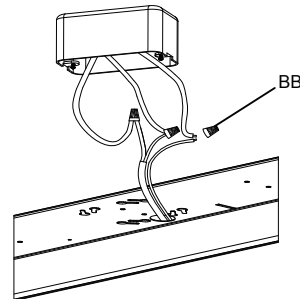

Figure 3
- Connect the house ground wire to the yellow/green ground wire on the mounting plate (Part A) using the wire nut (BB).
- Connect the house white wire to the mounting plate (Part A) white wire using the wire nut (BB).
- Connect the house black wire to the mounting plate (Part A) black wire using the wire nut (BB).
**NOTE:** For proper connection, place the wire nuts (BB) over wires and twist clockwise until tight. (Figure 3)